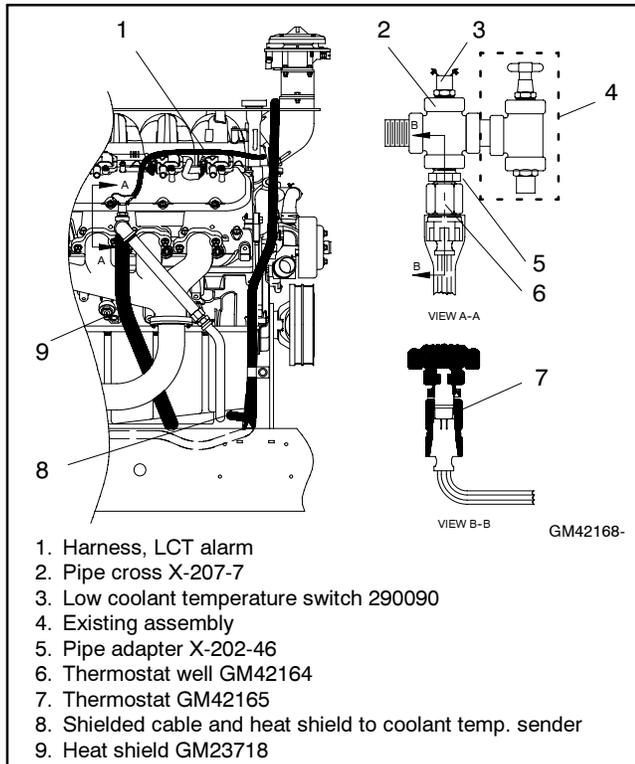

Figure 5 Attaching Pipe Cross
- 2.15 Apply pipe sealant to the male threads of the existing pipe nipple and attach pipe cross X-207-7. See Figure 5.
- 2.17 Apply pipe sealant to the male threads of the pipe nipple, air bleed valve, pipe tee, and pipe plug assembly and install in the pipe cross side port as shown in Figure 5.